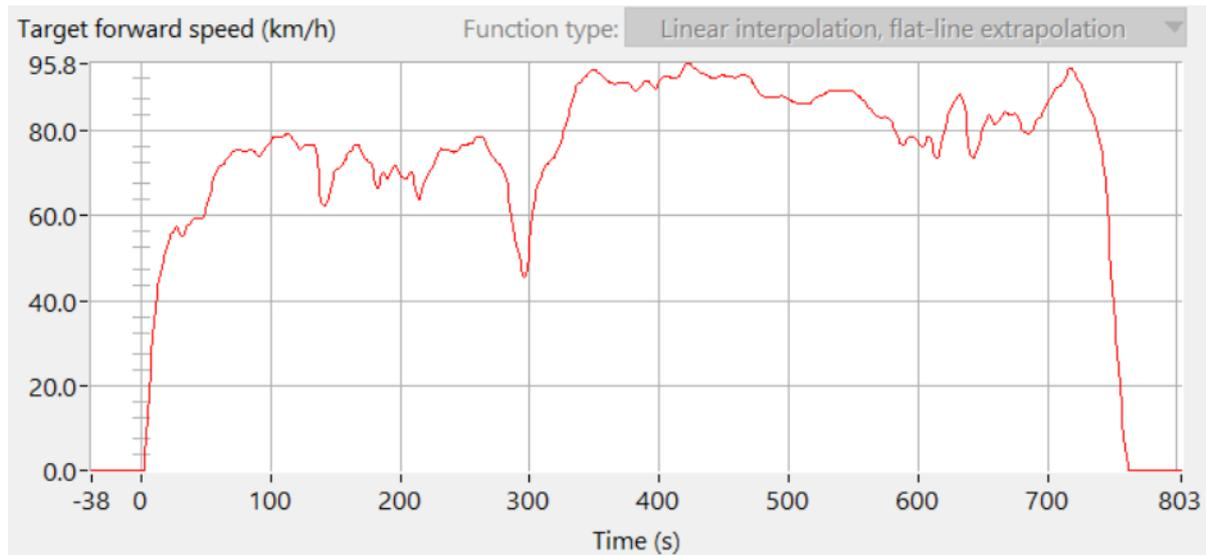

Figure 12: Vehicle Speed Profile EPA Highway Cycle
- Crosswind of 100 km/h from the left and right fans as shown in figure 12